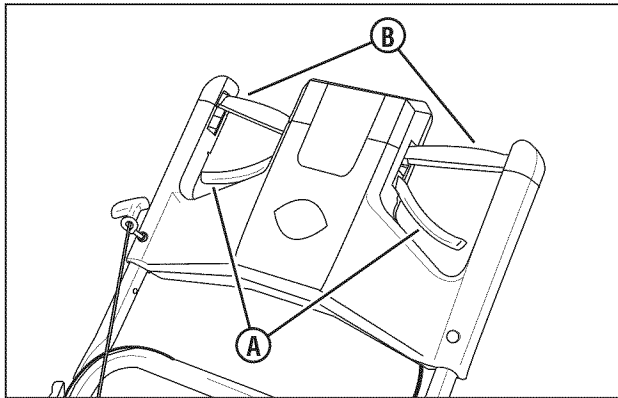

Figure 4: Mower controls
2. Check the blade control (**A, Figure 4**) and drive control (**B**) to insure they work freely.